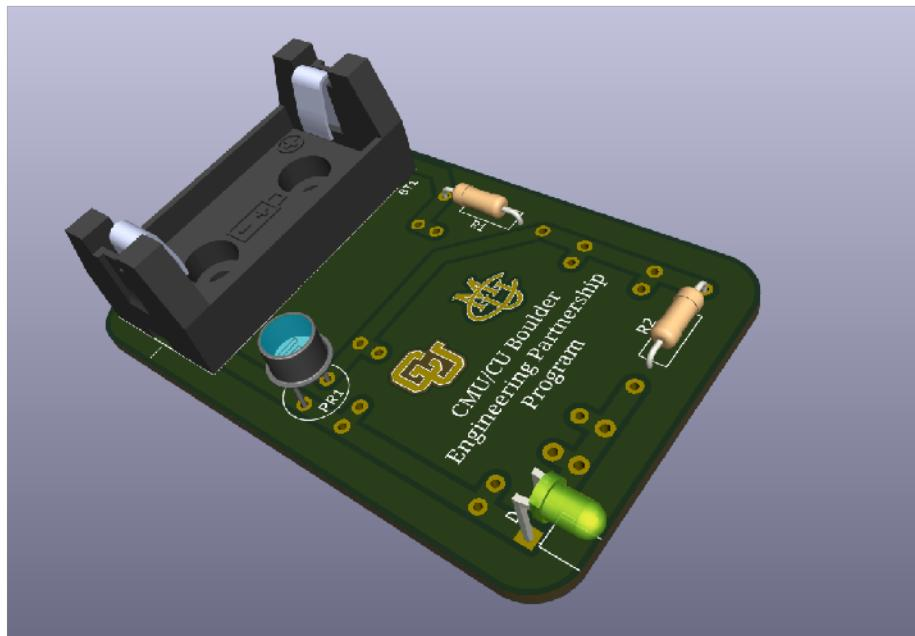

Figure 9: PCB, Battery-powered LED Night Light
From the schematic diagram, a **PCB** version of the LED night light was developed. An additional challenge was introduced: students would assemble the circuit **without using soldering equipment**, relying only on a small plier. To make this possible, the PCB layout was carefully designed with **extra holes** that allowed components to be securely connected and mechanically fixed to the board by bending their leads. This creative approach ensured that students could build a functional circuit using minimal tools, while still learning about PCB design, assembly, and component placement. The final PCB layout is shown in Figure 9.
- Battery-powered LED Night Light PCB (Figure 9).